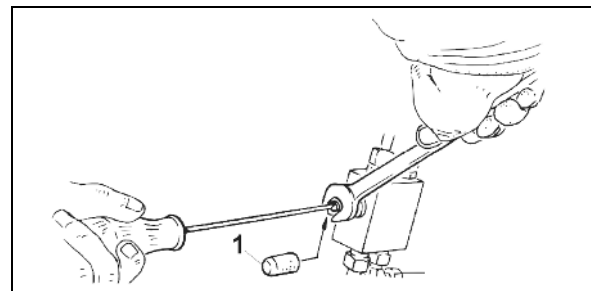

Fig. 79
1. Close the pressure relief valve (Fig. 79/2) (turn clockwise) and then open  $\frac{1}{2}$  turn (see chapter ), so that the oil volume is as little as possible.
4. After setting, secure the valve position using the counter nut and put on the protective cap (Fig. 79/1).